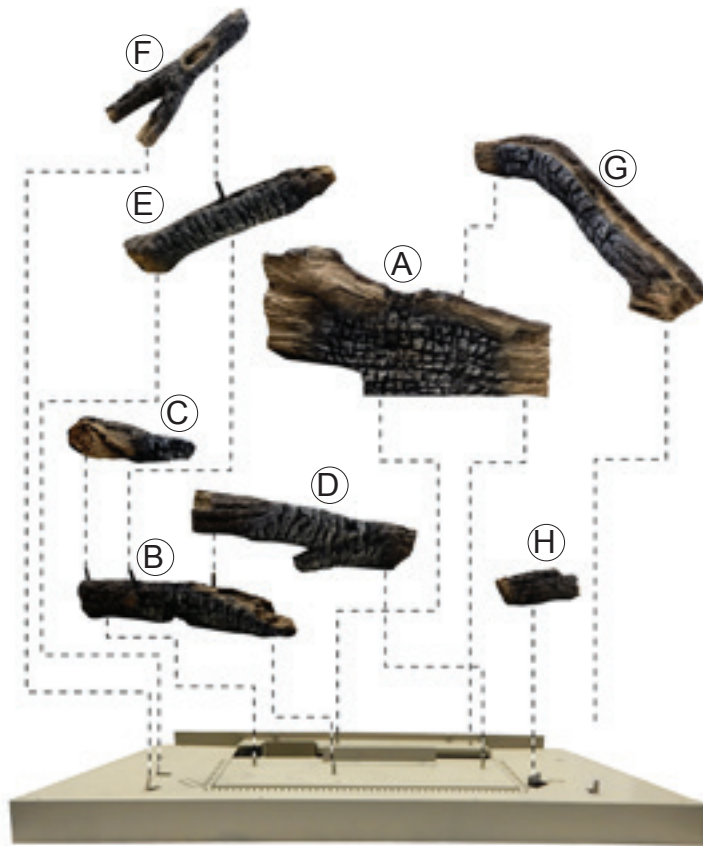

Figure 1 - ALS(3236,42)FF
4. Place logs in position as shown in **Figure 1** and the following pages. **DO NOT** force holes into the logs. Install using the holes located in each log.